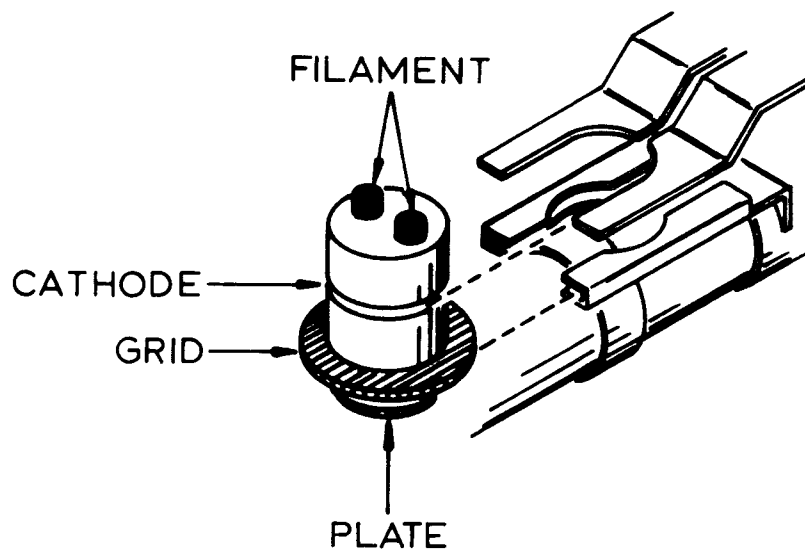

FIG. 4
5. Fig. 4 shows the installation detail of the Band 1 and Band 2 oscillator tubes.